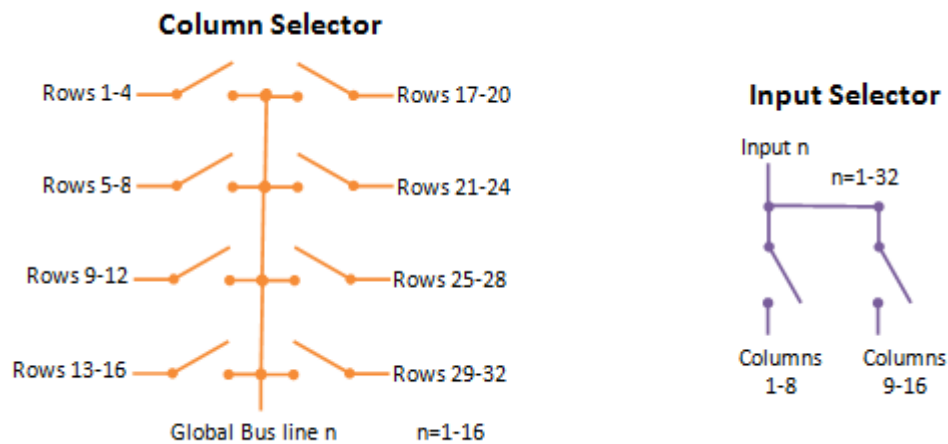

Figure 2-12: Schematic Diagram for RTM Selectors
- The input selector switches an Input channel from a BNC connector to one of two groups of columns: 1-8, 9-16. These numbers are related to the global bus signals. Figure 2-12 includes a logic schematic of an input selector.
- The column selector switches a global bus signal to one of eight sets of rows: 1-4, 5-8, 9-12, 13-16, 17-20, 21-24, 25-28 or 29-32. These numbers are related to the input channels. Figure 2-12 includes a logic schematic of a row selector.